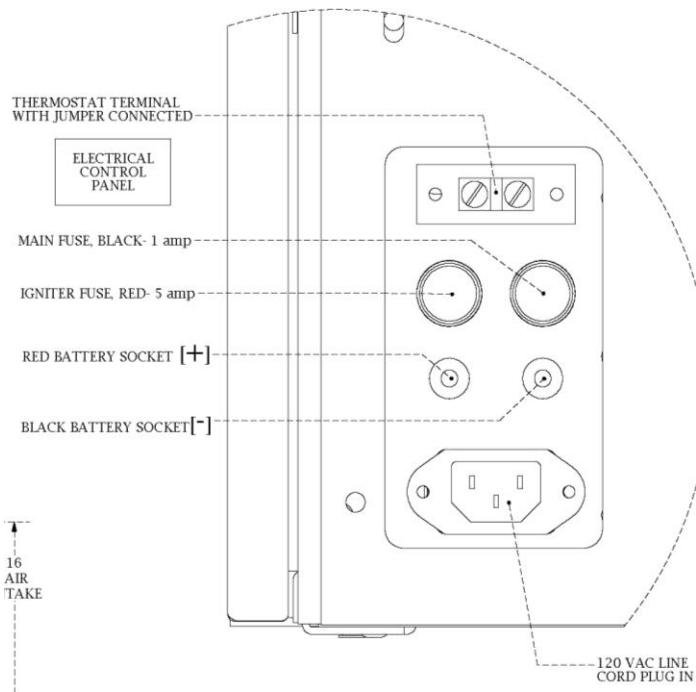

FIGURE 11
5. Plug the 2 banana plugs (red and black) into the corresponding (red and black) receptacles on the lower rear of the stove. See **FIGURE 11**.